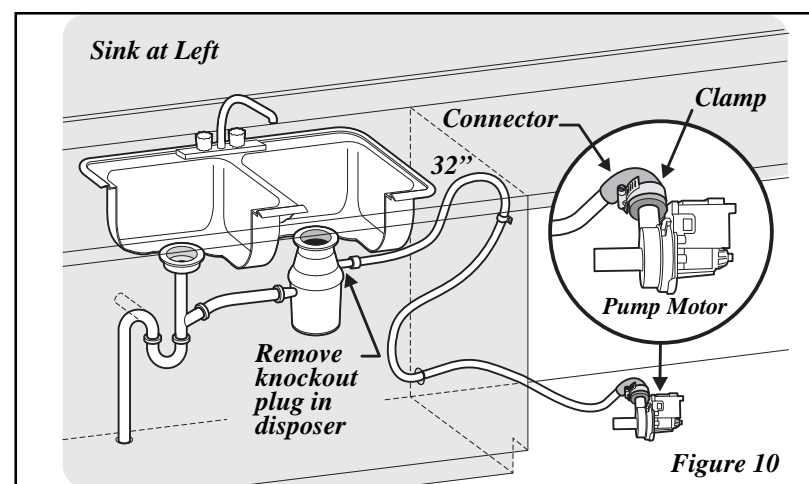

Figure 10
4. Be sure unit does not rest on drain hose. It should be free of electrical components and door springs. Do not cut corrugated drain hose. Pull excess through cabinet and place under sink. Make sure hose does not come in contact with any sharp edges. See **Figure 10**.